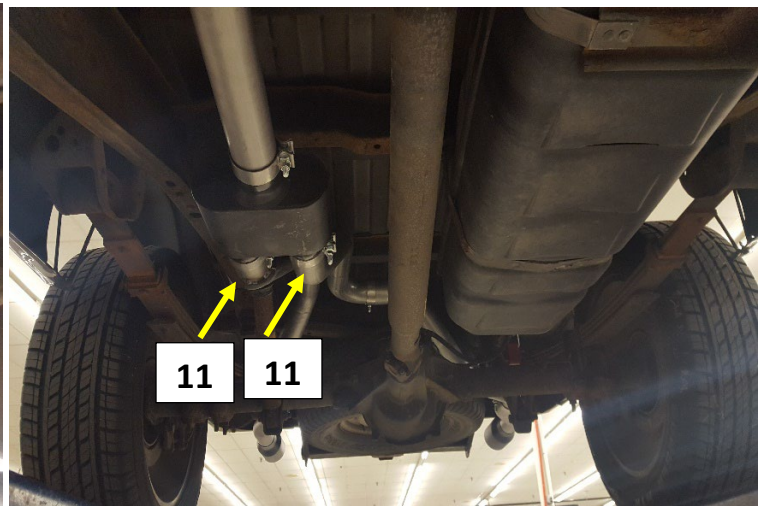

Figure.5
11. Install a 3" band clamp (11) on to each of the Muffler outlets. **Fig.5**